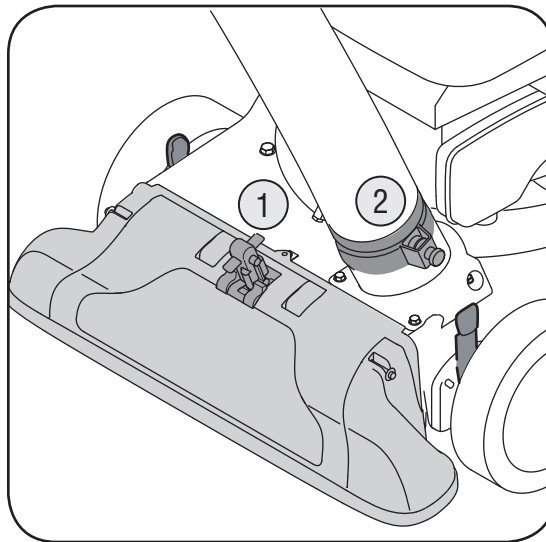

Figure 13
1. Place nozzle/hose vac handle in the bottom position on the nozzle to redirect vacuum to the hose assembly. See Figure 13.